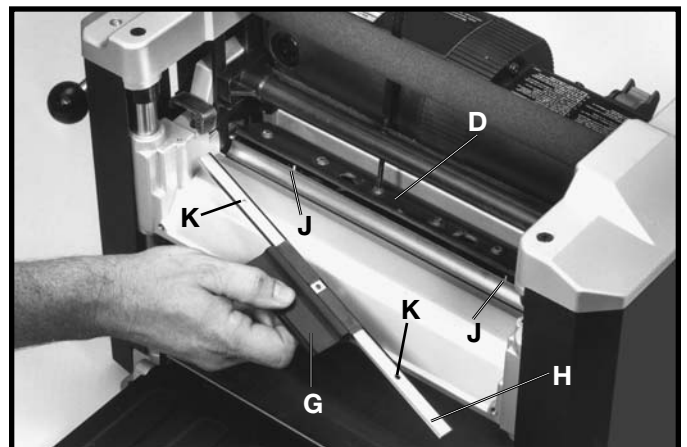

Fig. 29
8. Rotate knife (H) Fig. 29, end-for-end, or using a new knife, position knife transfer tool (G) on top of knife as shown. Place knife in cutterhead with bevel up underneath locking bar (D), making sure pins (J) in cutterhead engage with holes (K) in knife.